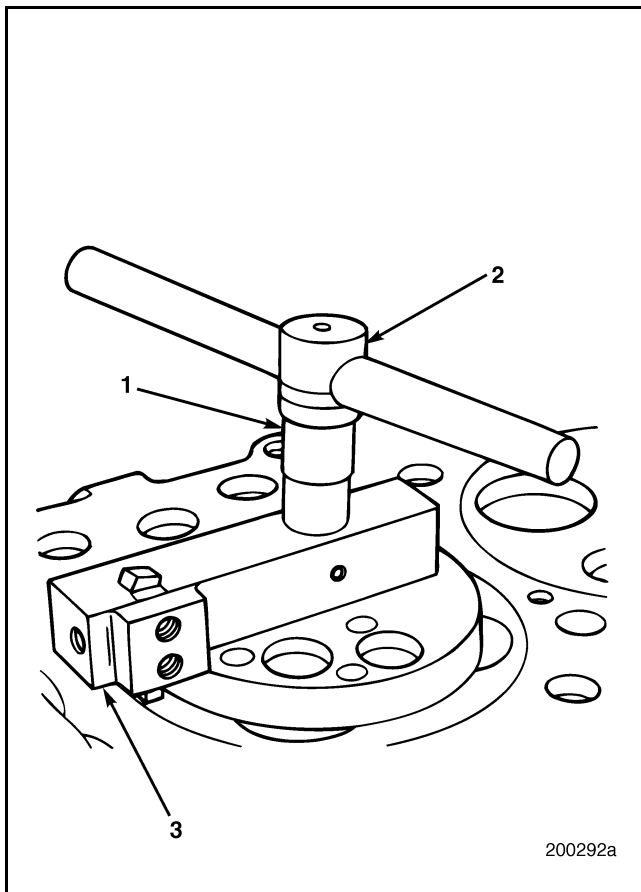

Figure 254 — Ring Groove Cutting
6. Install a socket and T-handle on the cutter head as shown in Figure 254. Using the T-handle, rotate the cutter head in a clockwise direction only, applying an even downward pressure to cut the fire ring groove.